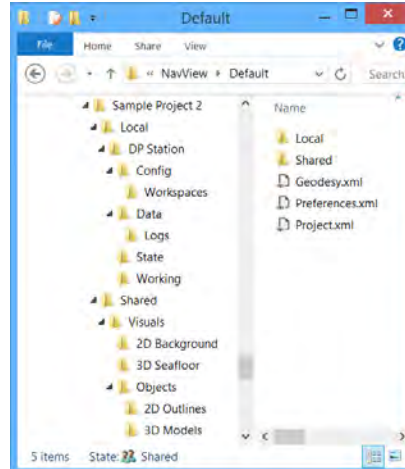

FIGURE 4-8 PROJECT WIZARD - FOLDERS CREATED
10. Click Finish to complete the creation of the new project and base configuration. NavView will create the project folder and specific base sub-folders shown in Figure 4-8 under Public Documents\4D Nav\NavView\ and then be ready to proceed with the rest of the configuration.